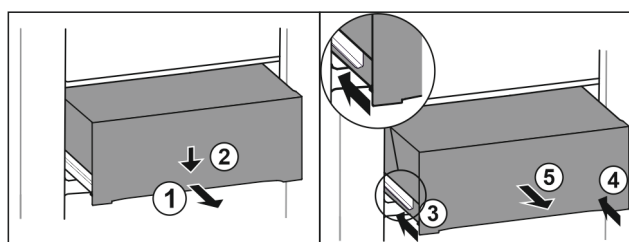

Fig. 133
- Pull out the drawer halfway. Fig. 133 (1)
- Press down the drawer on the front. Fig. 133 (2)
- Push in the left rail approximately 2 cm. Fig. 133 (3)
- Push in the right rail approximately 2 cm. Fig. 133 (4)
- Remove drawer to the front. Fig. 133 (5)